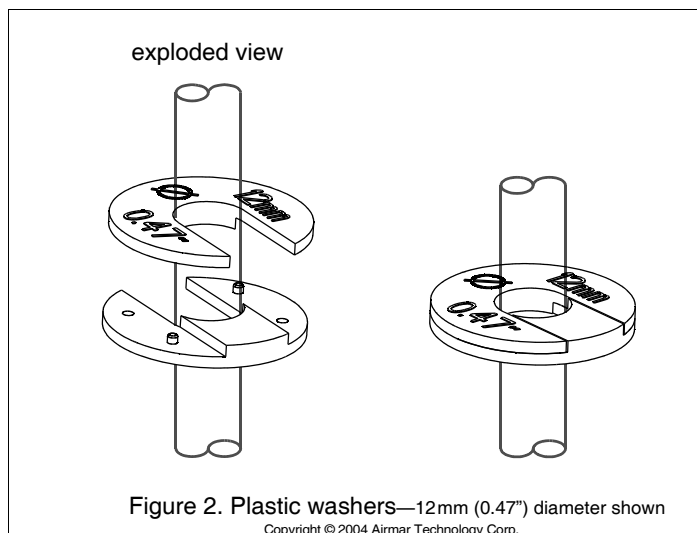

Figure 2. Plastic washers—12mm (0.47") diameter shown
1. The stuffing tube kit contains two sets of plastic washers. Four are marked 8mm (0.33") diameter and four are marked 12mm (0.47") diameter. Choose the set of plastic washers with the smallest diameter that will fit around your cable. (Discard the other set; it is *not* needed.) Put two of the plastic-washer pieces around the cable and press the halves together to form a closed ring (see Figure 2).